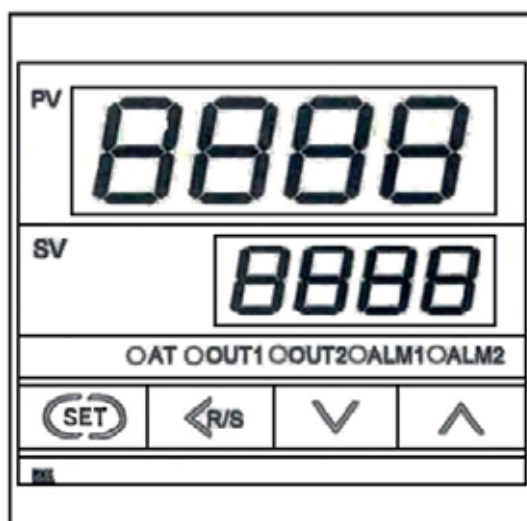

Fig 2.1 Controller Display
4. **Controller Setup and check** - To power up the controller ensure that the main isolator and all the circuit breakers are switched on. Check the controller settings before function testing. As shown in **Fig 2.1** the controller display indicates the Measured Value (PV), Set Value (SV) and run indication for the Auto tuning (AT), Output 1 and 2 (OUT1, OUT2) and Alarm 1 and 2 (ALM1, ALM2). The display is used during setting to show parameters and functions.